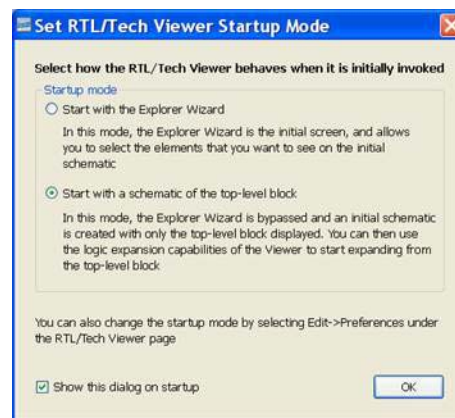

Figure 5-20: Startup Modes
3. Select the **Start with a schematic of the top-level block** startup mode, and press the **OK** button as shown in Figure 5-20: